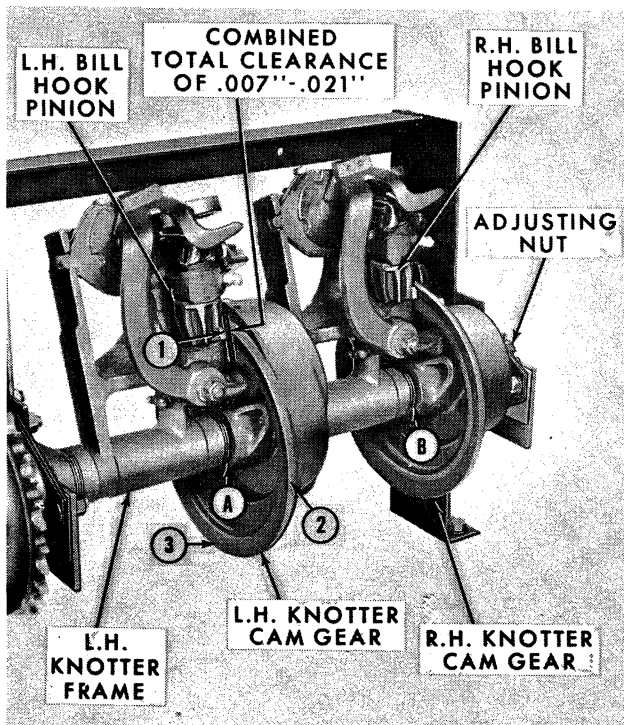

Figure 3
3. Insert a screwdriver or other appropriate tool at point "A", Figure 3. Apply lateral pressure with the screwdriver and spread the left-hand knotter cam gear until the flat of the right-hand bill hook pinion contacts the machined face of the right-hand knotter cam gear.
4. While maintaining slight lateral pressure with the screwdriver or other tool, measure the distance between the flat of the left-hand bill hook pinion and the machined face of the knotter cam gear at locations (1), (2), and (3), Figure 3. The dimensions represent the combined bill hook-to-cam gear clearances for both knotter assemblies and should not be less than .007" nor more than .021" at any of the three locations.
5. Repeat the check on the right-hand knotter assembly inserting the screwdriver or other tool at point "B", Figure 3. Spread the right-hand knotter frame from the right-hand knotter cam gear until the left-hand knotter cam gear contacts the flat of the left-hand bill hook pinion. The dimensions should be the same as those taken on the left-hand knotter assembly.
6. If the measurements taken on the knotter assemblies are in excess of .021", remove the cotter pin from the adjusting nut, Figure 3, and tighten as necessary to obtain the required .007" – .021" clearance. Each slot of the nut will increase or decrease the clearance by .014". Reinstall the cotter pin through the nut and shaft.
IMPORTANT: Do not turn the adjusting nut more than finger tight. Excessive tightening may cause binding between the cam gears and bill hook pinions, resulting in premature wear. If a total bill hook pinion-to-cam gear clearance of .007" – .021" cannot be obtained by means of the adjusting nut, it may be necessary to remove one or more of the spacers at points "A" and/or "B", Figure 3, to enable the cam gears to be adjusted to the bill hook pinions. This will require removing the knotter assembly from the baler and re-stacking it as outlined in the procedure below.